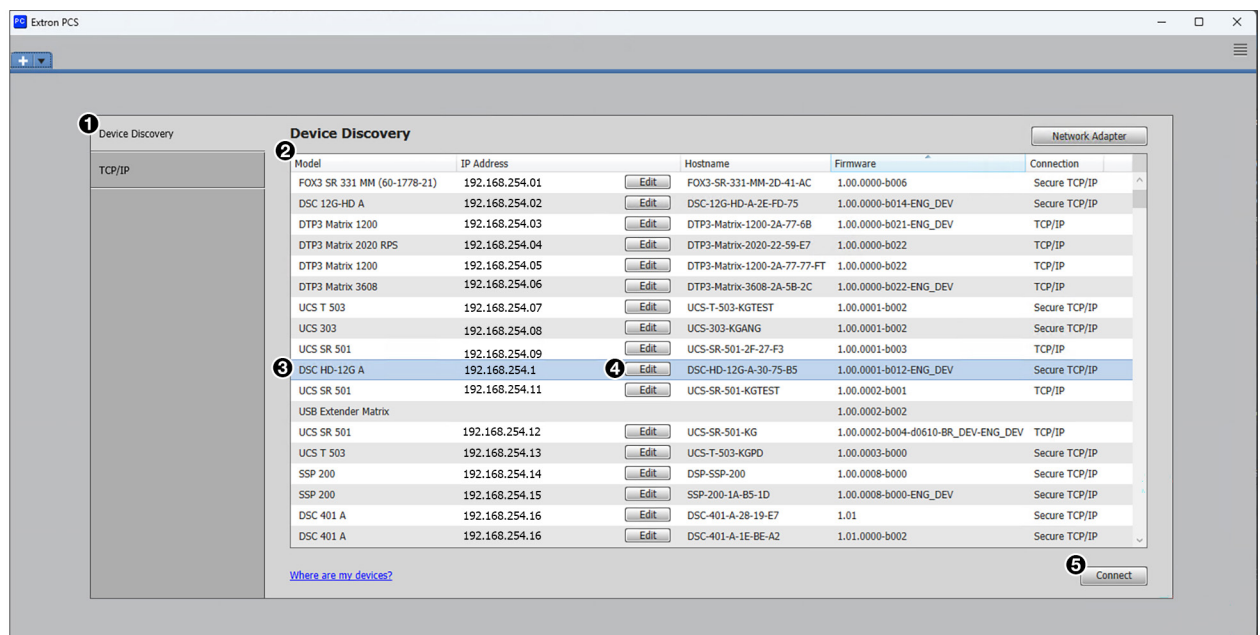

Figure 29. PCS Main Window
1. Click the **Device Discovery** tab (see figure 29, ①).
2. Click the desired column heading (②) to sort it in ascending or descending order.
1. Click the **Device Discovery** tab (see figure 29, **1** on page 59).